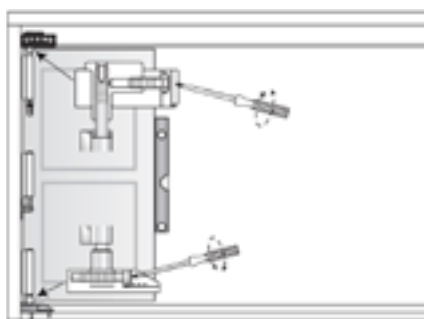

Figure 40: Horizontal adjustment roller locations
- Step 1** - With the doors open, using a flat headed screwdriver adjust the horizontal screws found in the top and bottom rollers (as shown in Figure 40).